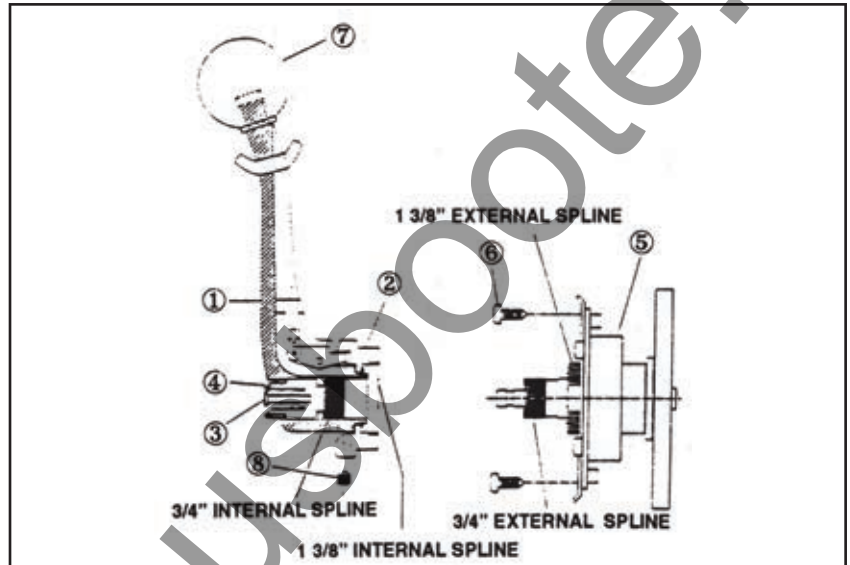

Figure 6.
Once the mechanism has been securely mounted, the handle assembly may be attached to the control. The handle assembly contains two (2) sets of internal splines; one (1) on the chrome locking ring, and one (1) on the black handle. There are two (2) sets of mating external splines on the mechanism; one (1) on the cast housing and one (1) on the steel shaft. Each set of splines contains forty-eight (48) teeth and both sets of the 1 3/8" splines and 3/4" splines are consistently oriented to the other (See Figure 6)